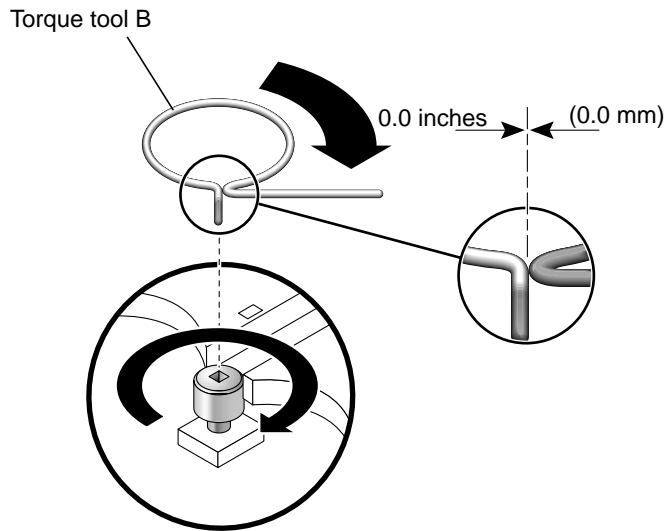

FIGURE 8-11 Adjusting Captive Screws Until the Torque Tool Gap Is 0.0 Inches (0.0 MM.)
7. Repeat Step 5 and Step 6 until the gap for torque tool B is 0.0 inches (0.0 mm) (see FIGURE 8-11).